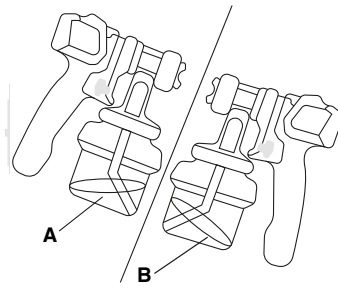

Fig2
- Aligning suction tube. (Fig.2)
When spraying objects overhead, turn suction tube back. (Fig. 2 B)